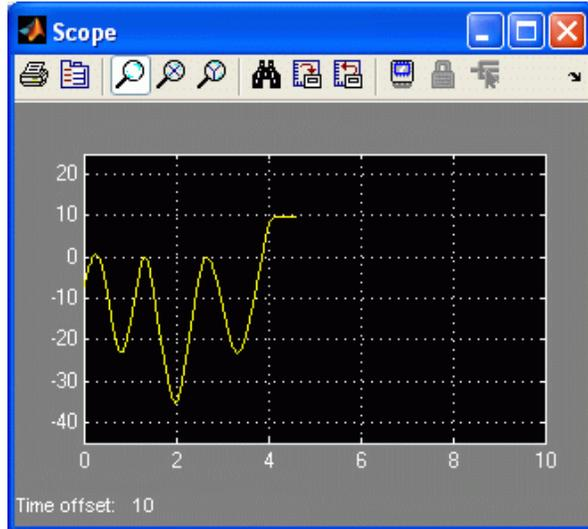

Figure 8: Reading IP01 cart position from the potentiometer.
14. Click on *QUARC | Start* to execute the code. Manually move around the IP01 back-and-forth. The Scope should display the potentiometer readings similarly as shown in Figure 8.